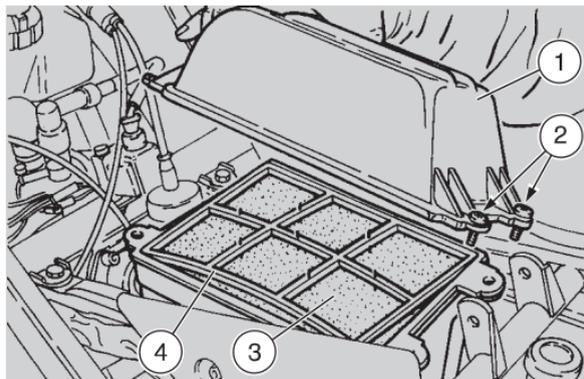

Fig. 40
- remove the filter case cover (1-Fig. 40), by loosening the two screws (2-Fig. 40) (other two screws are positioned on the front part);
- remove the filtering element (3-Fig. 40) and the grid (4-Fig. 40);